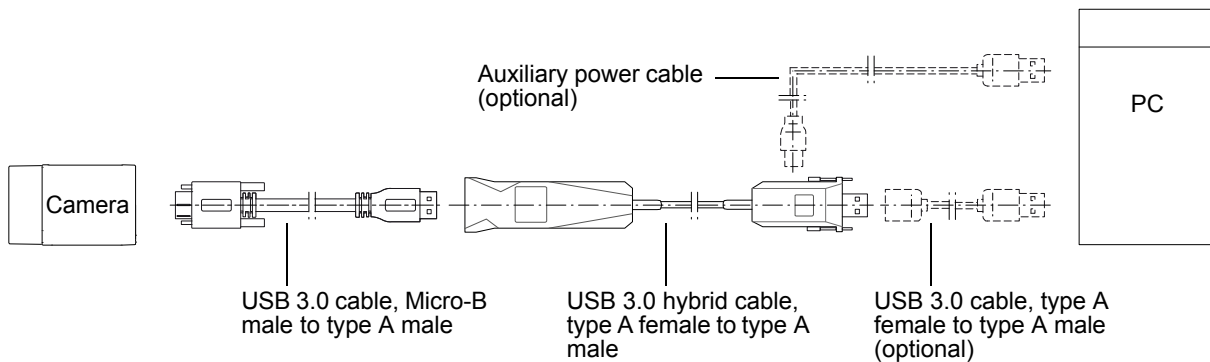

Fig. 2: Cable Connections Overview
- In order to connect the USB 3.0 hybrid cable to the camera, an additional connecting cable (1 m/3 m recommended, 5 m max.) is required (see Fig. 2).
- A direct connection to a PC main board USB 3.0 socket and to a 4-port USB 3.0 card may not be possible due to the size of the host-side connector. In this case, use a suitable short connection cable (1 m max. recommended) (see Fig. 2).